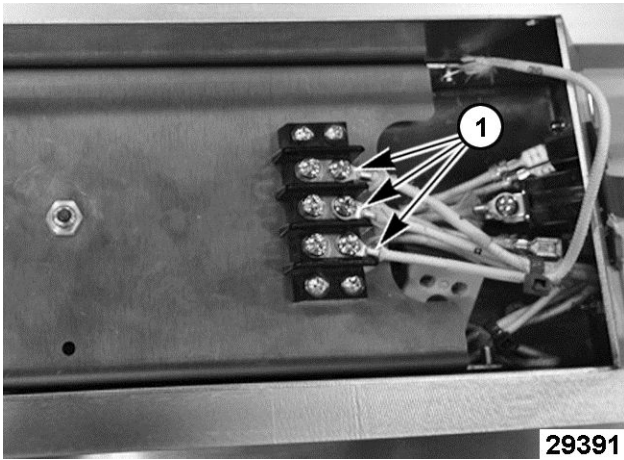

Fig. 39
B. Note heating element wire locations (1, Fig. 39) and disconnect from terminal strip.